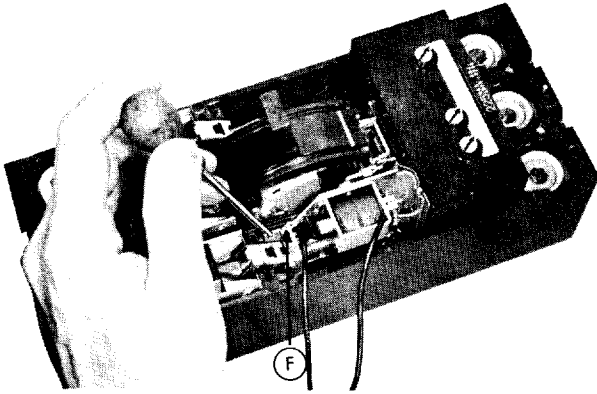

Fig. 12. Wedging shunt trip in place
Insert small screwdriver in notch (F) and pry outward as shown to wedge accessory in place (See Figs. 12 and 13).